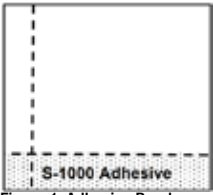

Figure 1: Adhesive Bond
- Apply the Adhesive in no larger than 2' or 3' bands (Figure 1), to 1/2 of the area at a time so you can start the installation along the center starting line. Do not apply more adhesive than you can cover within 45 minutes. Allowing a 10-minute open time and fitting the border tile tightly will reduce tile shifting and adhesive oozing. **DO NOT** allow the adhesive to skin over or dry. If the adhesive skins over or dries, remove it and reapply.